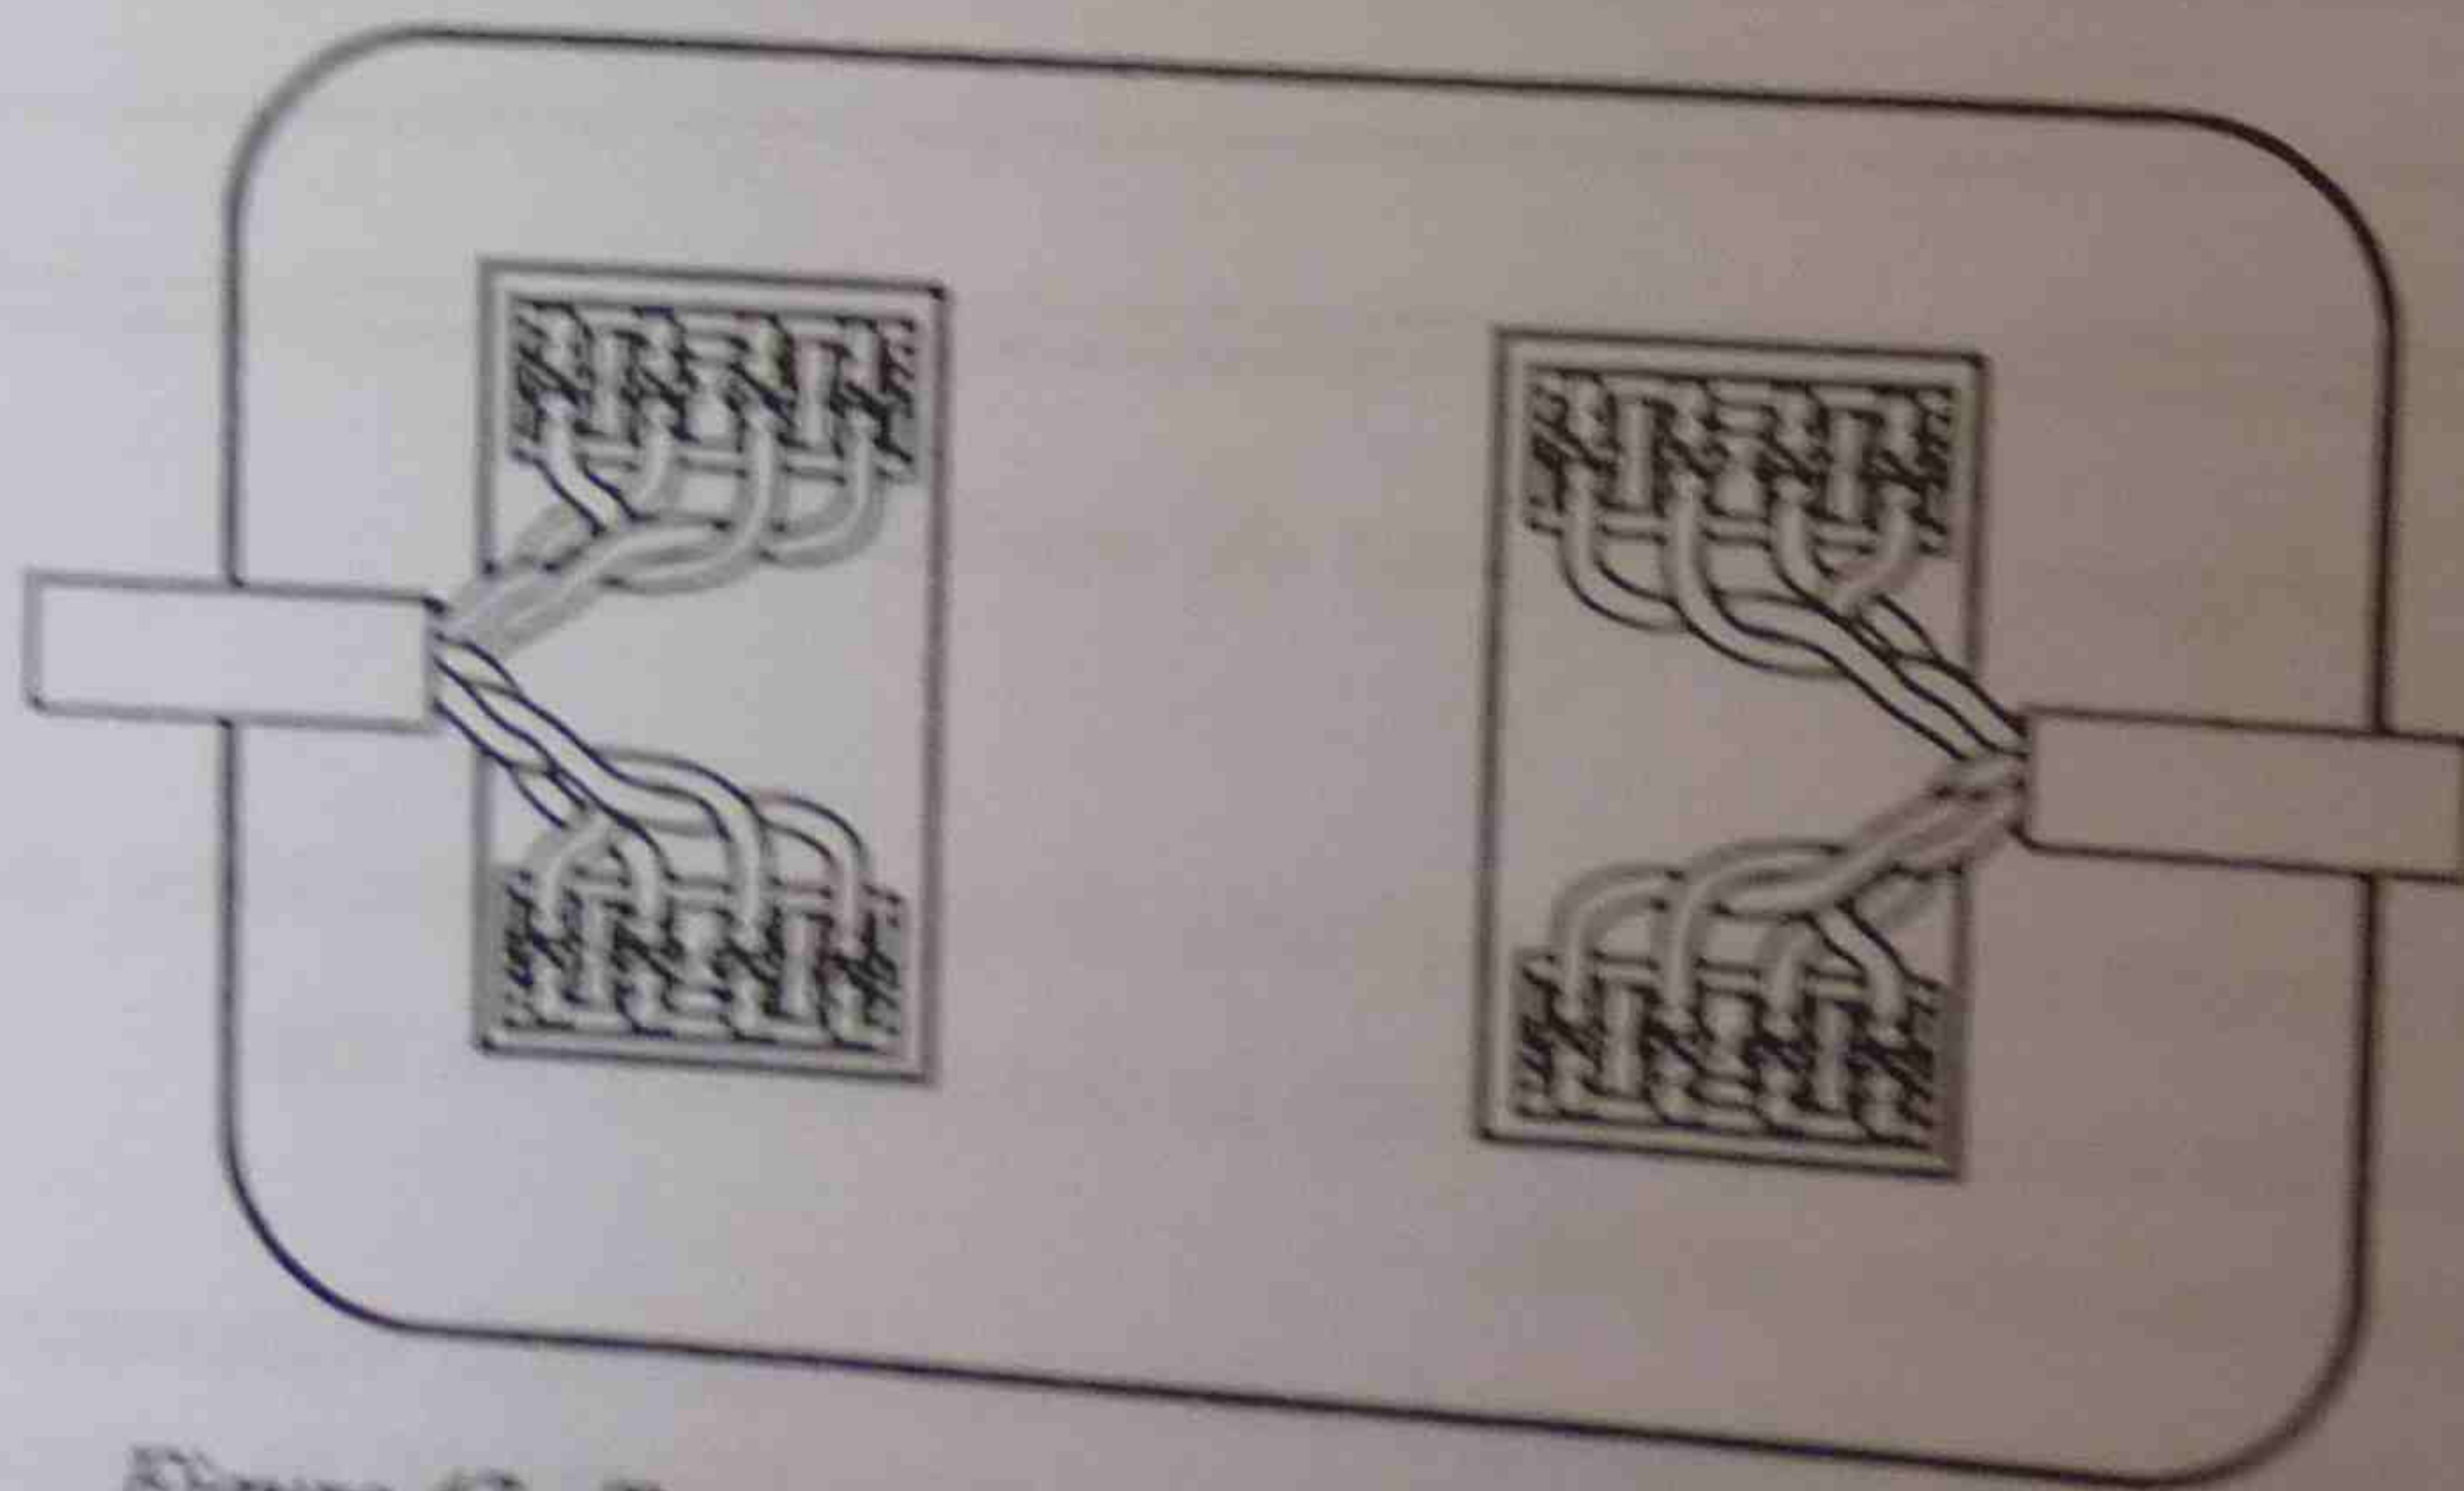

Figure 47 Termination at Modular 8 x 8 faceplate
7. Install each wire into the appropriate termination of the 8 x 8 modular connector port. Use Figure 47 and Table 5 as a guide.